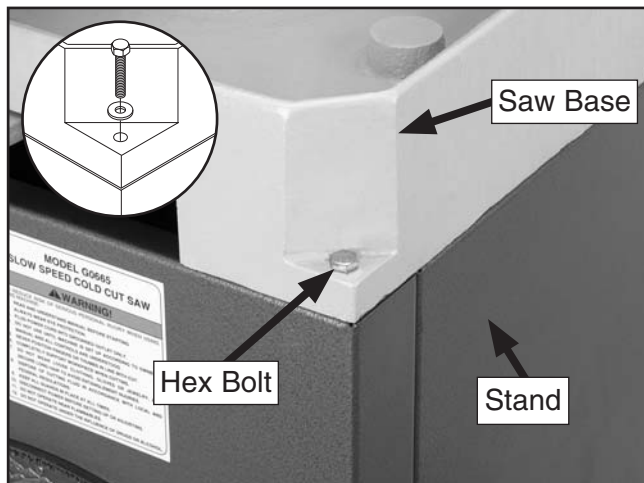

Figure 13. Mounting saw onto stand.
4. Place the saw onto the stand and secure it with the four M8-1.25 X 35 hex bolts and flat washers (**Figure 13**).